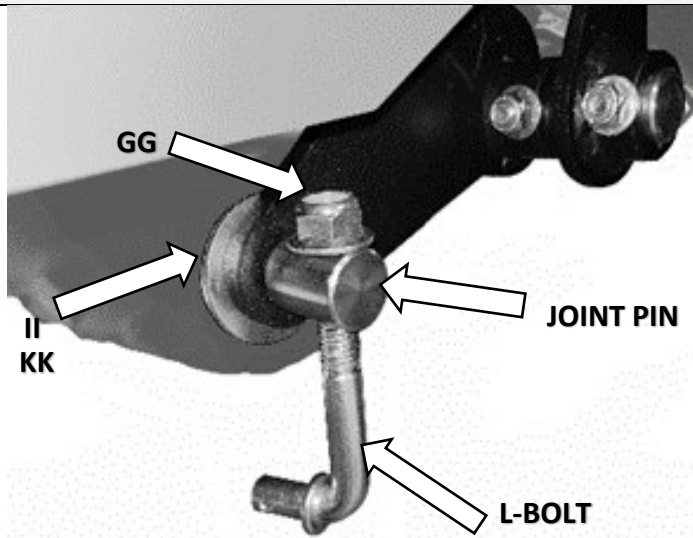

Figure 1C
1. Install the rear Joint Pins and the L-Bolt to the right and left side Mid Drag Links (Figure 1C). Insert the Joint pin to the appropriate hole and use the II Flat Washer and the KK Cotter pins to secure. Insert the L-Bolt into the Joint pin as indicated and secure with locking nut GG. Repeat on the opposite side.